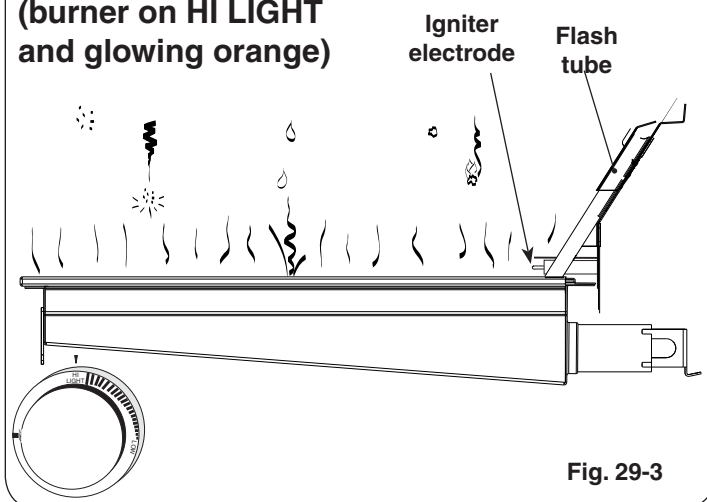

Fig. 29-3
- **DO NOT place food on the cooking grid until the IR burner glows orange (Fig. 29-3).** Drippings are heated and evaporate instead of sticking to and impairing burner function.